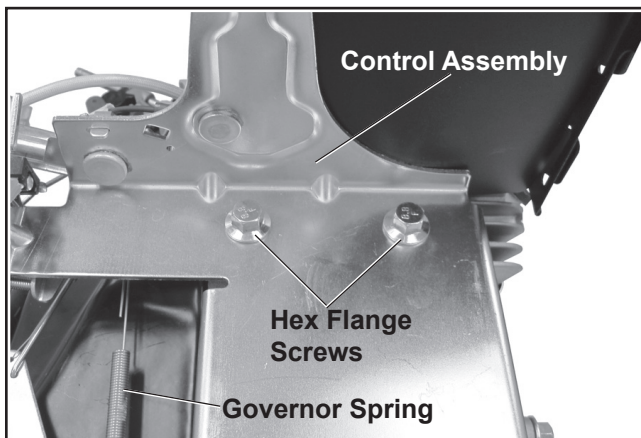

Figure 20. Remove Hex Flange Screws.
- Disconnect the governor spring from the control lever spring arm. See Figure 20.
- Remove the hex flange screws, and remove the control assembly. See Figures 20 and 21.